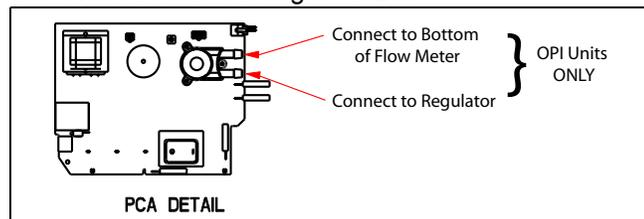

FIGURE 8-26: PRESSURE TUBING CONNECTIONS
2. Connect the Other ends of the Pressure Tubing to the Pressure Regulator and bottom connection on the Flow Meter. Refer to Refer to Figure 8-26..